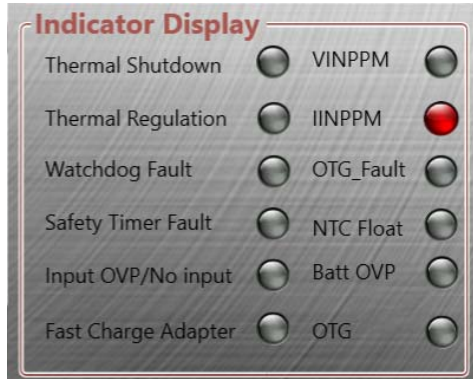

Figure 30: Fault Monitoring Indicator Display
- MP2733 fault monitoring (see Figure 30)